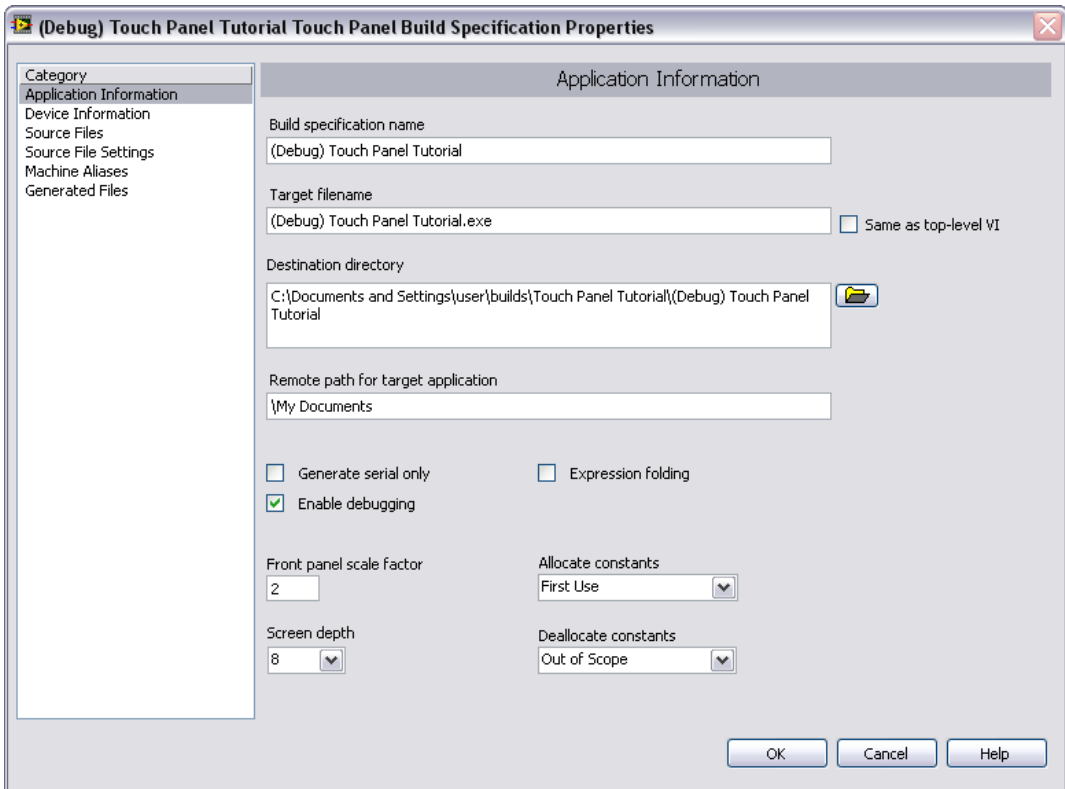

Figure 8. Creating the Debugging Build Specification
5. Place a checkmark in the **Enable debugging** checkbox to generate debugging information when you build the Touch Panel VI into an application, as shown in Figure 8.